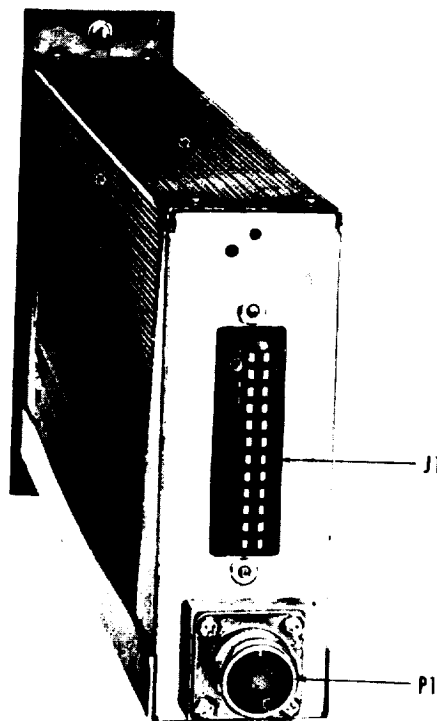
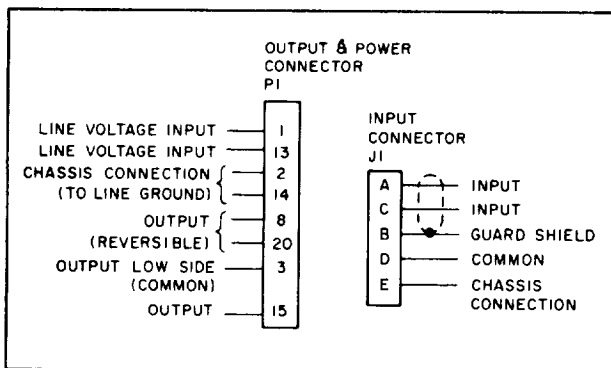

Figure 2-2. Accudata 104 D-C Amplifier - Rear View
Figure 2-3. Connector Pin Identification
- A. OUTPUT. Figure 2-2 shows the physical location and designation of connectors on the rear of the Accudata 104. Pin connections are illustrated in Figure 2-3. Power is applied to the amplifier power supply on pins 1 and 13 of connector P1. A chassis connection is available on pins